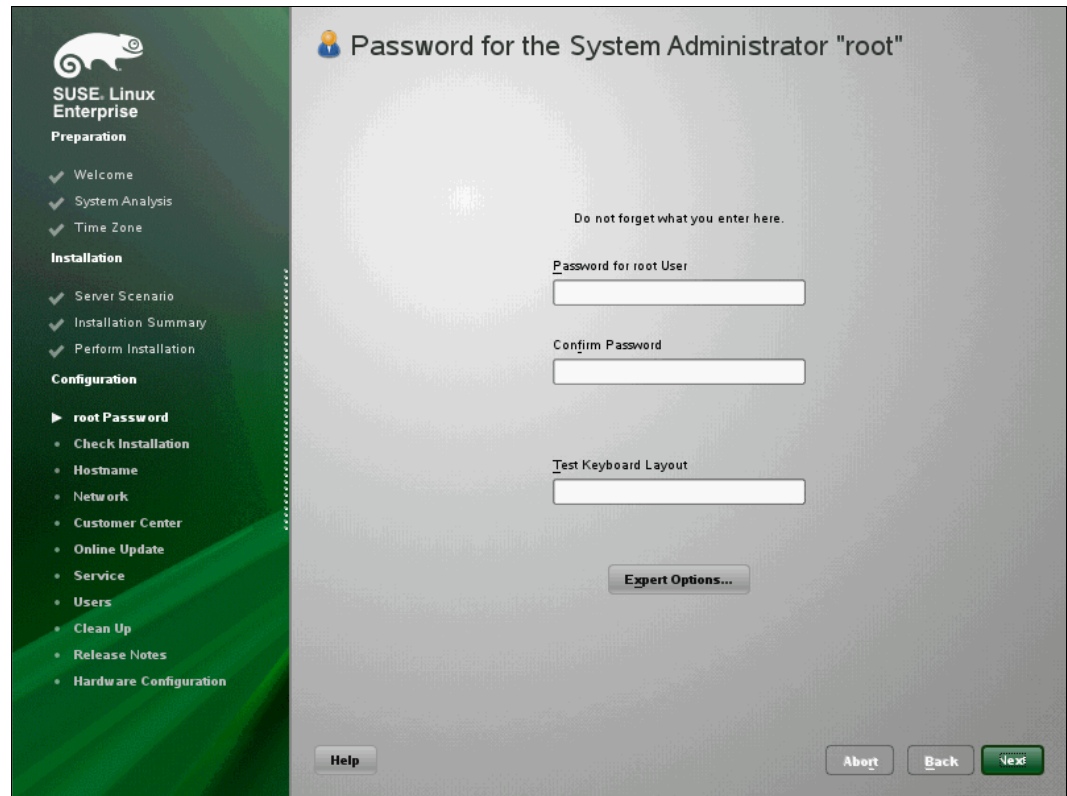

Figure 9-49 Password panel
15. If the server reboots, you are done installing SLES 11 SP2. The boot takes time. After a few minutes, the Password panel appears. See Figure 9-49.